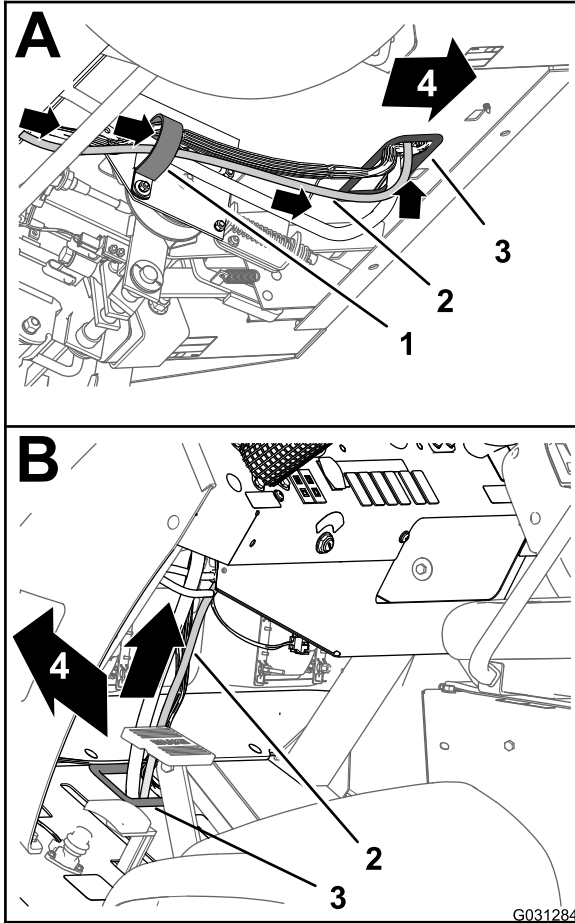

Figure 142
- Route the route the 220 cm (86-5/8 inch) branch of the data harness forward and up through grommet that surrounds the hole in the floor panel (Figure 142).
- Route the route the 220 cm (86-5/8 inch) branch of the data harness up and along the front wire harness of the machine (Figure 142).